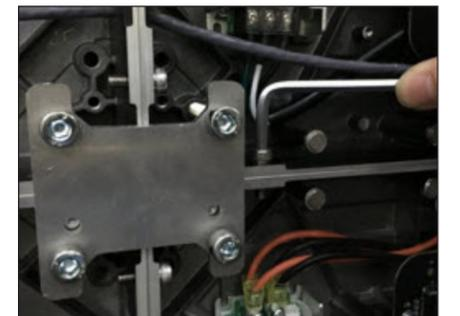

**Figure 27:** Assemble Panels with Socket-Head Screws
- Use a 5 mm Allen wrench and socket-head stitch screws to attach the panels together, but do not tighten the screws. Refer to **Figure 27**.